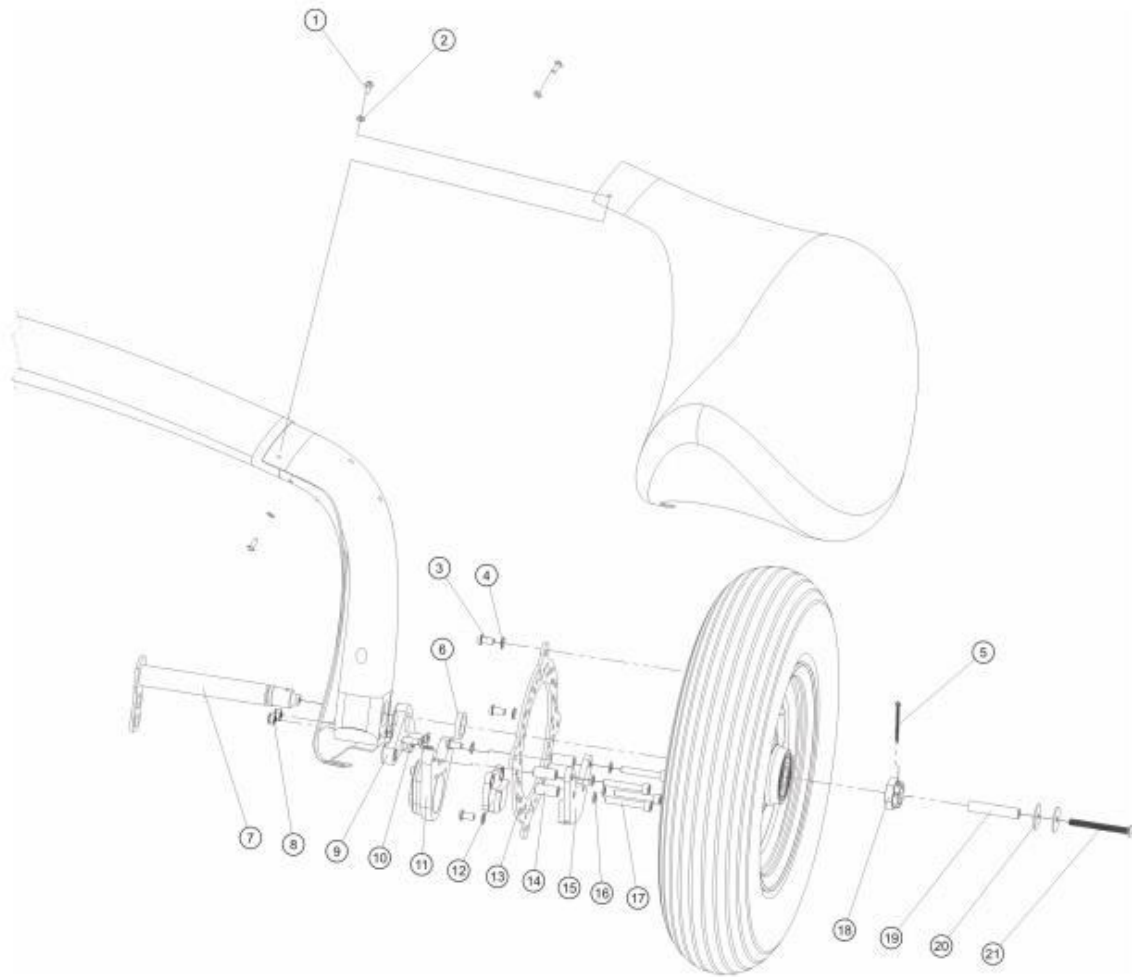

Fig. 3 - Main gear assembly
- 7 Remove and discard split pin (Fig. 3, 5) and unscrew the castellated nut (Fig.3, 18). Discard split pin (Fig. 3, 5).
- 8 Unscrew and remove 4 x bolt (Fig. 3, 3) with serrated washer (Fig. 3, 4). Mind limited reusability of serrated washer!
- 9 Remove wheel from axle assembly (Fig. 3, 7/9).
- 10 Insert main wheel on axle assembly (Fig. 3, 7/9).
- 11 Insert 4 x bolt (Fig. 3, 3) with new serrated washer (Fig. 3, 4) and attach brake disc to main wheel.
- 12 Torque-tighten bolts (Fig. 3, 3) with 10 Nm in crosswise sequence.
- 13 Install castellated nut (Fig. 3, 18) and torque-tighten nut with 35 Nm.
- 14 Install split pin (Fig. 3, 5).